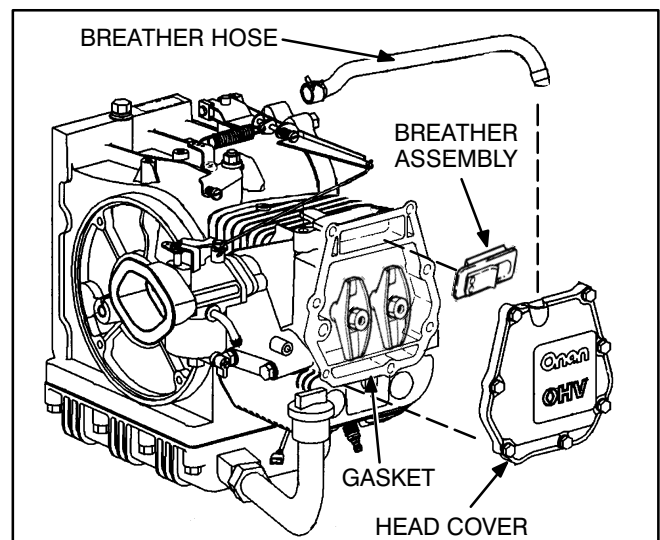

FIGURE 10-3. HEAD COVER
1. Remove the head cover mounting bolts and pull off the head cover (Figure 10-3).